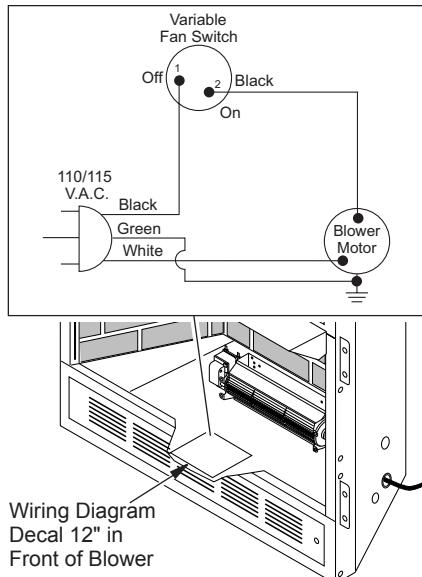

Figure 18 - Location of Wiring Diagram Decal (Model May Vary From Illustration)
14. Peel off backing paper and stick supplied wiring diagram decal on firebox bottom approximately 12" in front of blower (see Figure 18).
8. Peel off backing paper and stick supplied wiring diagram decal on firebox bottom approximately 12" in front of blower (see Figure 18, page 17).